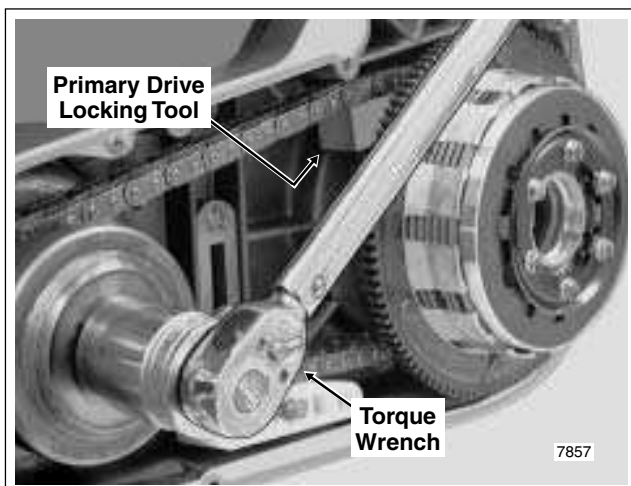

Figure 6-30. Place Primary Drive Locking Tool and Torque Engine Compensating Sprocket Nut
- a. With the flat side against the upper strand of the primary chain, insert stepped side of tool into teeth of clutch sprocket. Verify that adjuster shoe of chain tensioner assembly rests flat on casting of primary chaincase, and then using torque wrench and 1-1/2 inch socket, tighten engine compensating sprocket nut to 75 ft-lbs (101.7 Nm). See Figure 6-30.